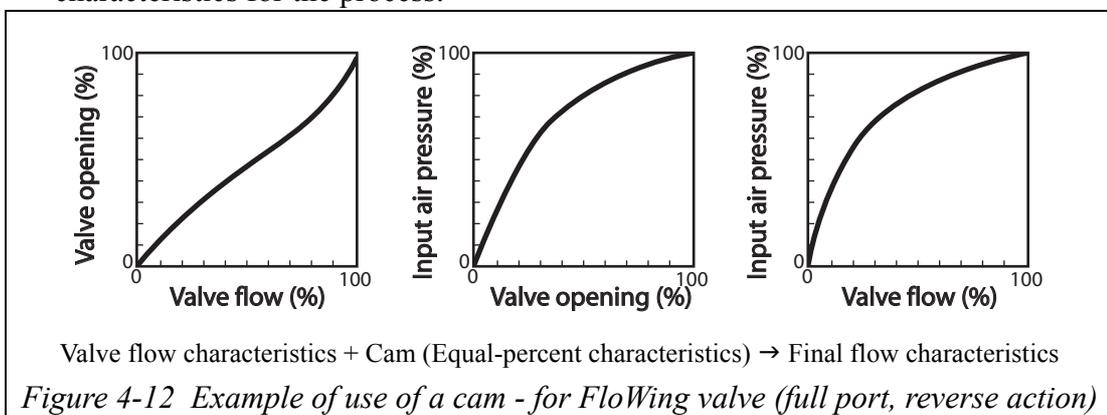

Figure 4-12 Example of use of a cam - for FloWing valve (full port, reverse action)
- (1) Confirm whether the valve is a direct action (air-to close) or reverse action (air-to-open) type.
- (2) Refer to Figure 4-12, and then select a cam which will provide the required flow characteristics for the process.